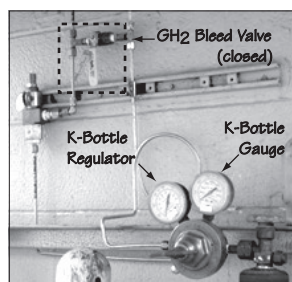

Figure 4.1-19.
4.1.13. At the K-bottle station outside Building 4612 (Figure 4.1-19), **verify** that the **GH2 Bleed Valve** is **closed**.
4.1.15. **Ensure** that the hydrogen K-bottle gauge (Figure 4.1-19) registers a minimum of 200 psi. *If the gauge **does** register a minimum of 200 psi, **proceed** with step 4.1.16. If the gauge **does not** register a minimum of 200 psi, **install** a fresh hydrogen K-bottle, **leak check** the bottle, and **resume** procedure at step 4.1.13.*
**4.1.16. Set** the hydrogen K-bottle regulator to the desired pressure. **Ensure** that the regulator reads no more that 130 psi ( Figure 4.1-19).